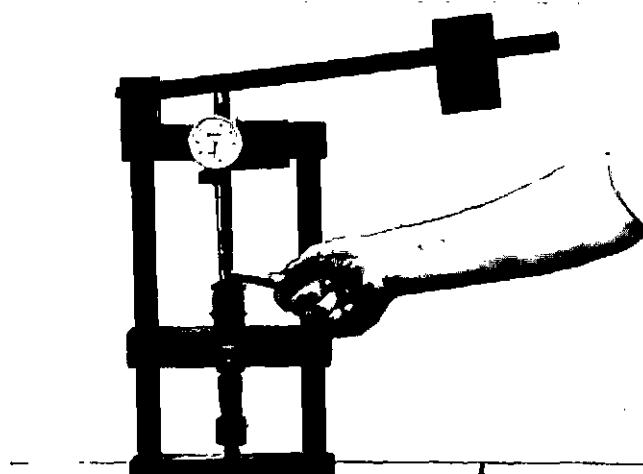

Fig. 4-7, (F60231). Adjust the top stop setting of the injector
8. Bottom the plunger again and adjust the stop up or down with the 3375165 wrench. The travel must equal that indicated in Bulletin 3379664 ( $\pm 0.0005$  inch [.013 mm]) under "Top Stop Set", Fig. 4-7.